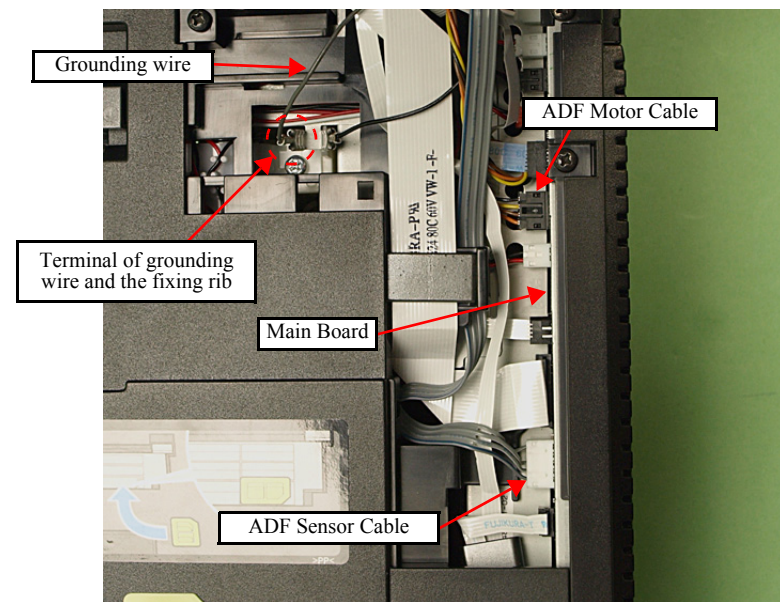

Figure 4-5. Removing the ADF Unit (1)
4. Disconnect the ADF Motor Cable and ADF Sensor Cable from the connectors on the Main Board. (See Fig. 4-5.)
- Insert the terminal of the grounding wire to the end of the rib of the Frame. (See Fig. 4-5.)